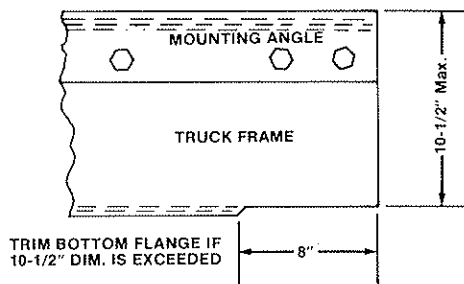

FIG. 5.5
1. If 10-1/2" dimension is exceeded from top of mounting angle to bottom of truck frame flange at rear of 62-1/2" cut-off, cut bottom flange of truck frame 10-1/2" down from top of mounting angle and 8" forward from rear of 62-1/2" cut-off. (Fig. 5.5)